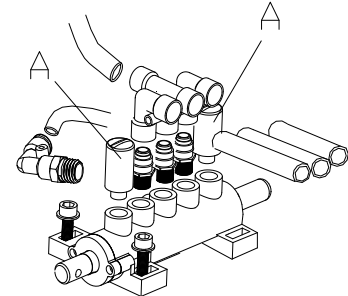

Fig 13
2. Loosen the valve Muffler (A) which belong to Jaws open and close Pedal and Bead Breaker Pedal; **(Fig 13)**
3. Clean the silencers with compressed air, please replace it referring to the spare parts list if it is damaged. **(Fig 13)**